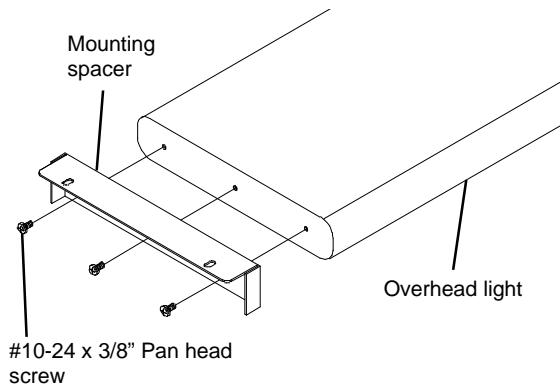

Figure 2
2. Packaged with the Light Support Brackets are two **Mounting Spacers** for the light which are in a separate carton. Attach a Spacer to each end using three 10-24 x 3/8 screws for each. See **Figure 2**.